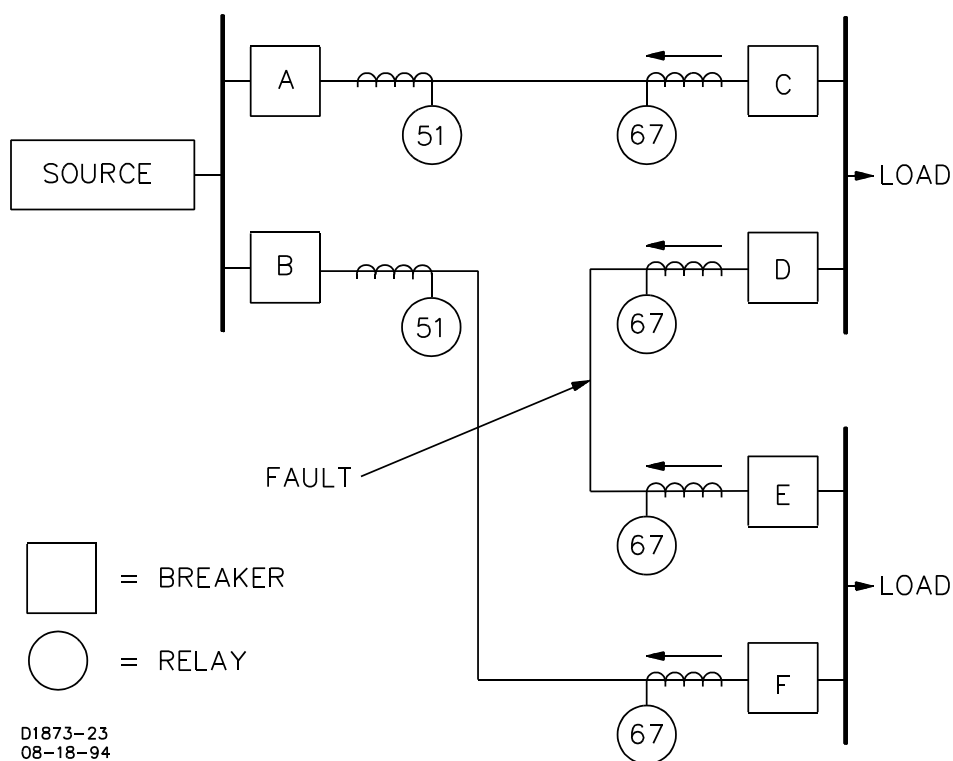

Figure 1-5. Substations Fed From One Source
With directional time overcurrent relays, the settings and time delays can be decreased and the undesired tripping eliminated. Figure 1-5 illustrates the use of directional overcurrent relays on a group of interconnected distribution substations fed from a common source. In this example, non-directional overcurrent relays (51) are used to protect the lines leaving the supply bus because there is only one source of fault current. However, the breakers at the load buses (C, D, E and F) are protected by directional time overcurrent relays (67) to prevent overtripping in the event of a fault. This will remove the faulted line and retain service to the connected loads.